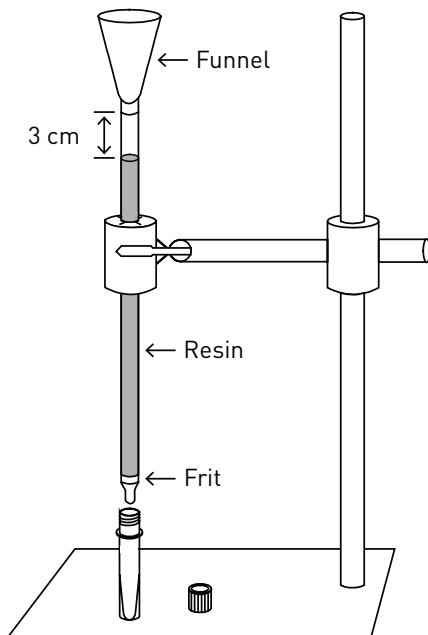

Figure 1
- 6. Prepare purification column/resin:** Assemble the purification column as shown in Figure 1. Add purification resin (Component C) up to ~3 cm from top. Check buffer flow-through with 1X PBS. If buffer flow stalls, remove the resin, clear the frit, and repack the column with resin/buffer. Allow the excess buffer to drain before loading the labeled protein.